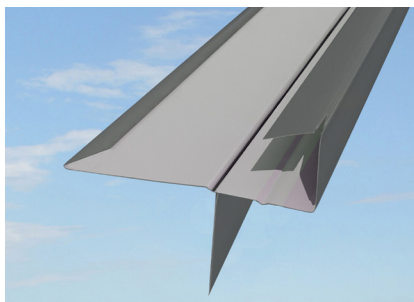

Fig.4.
7. Trim the inside corner of the trim. Make a small triangular cut into the top lap of the trim and press down slightly (Fig.4). This will allow the upper length to push inside the lower length.